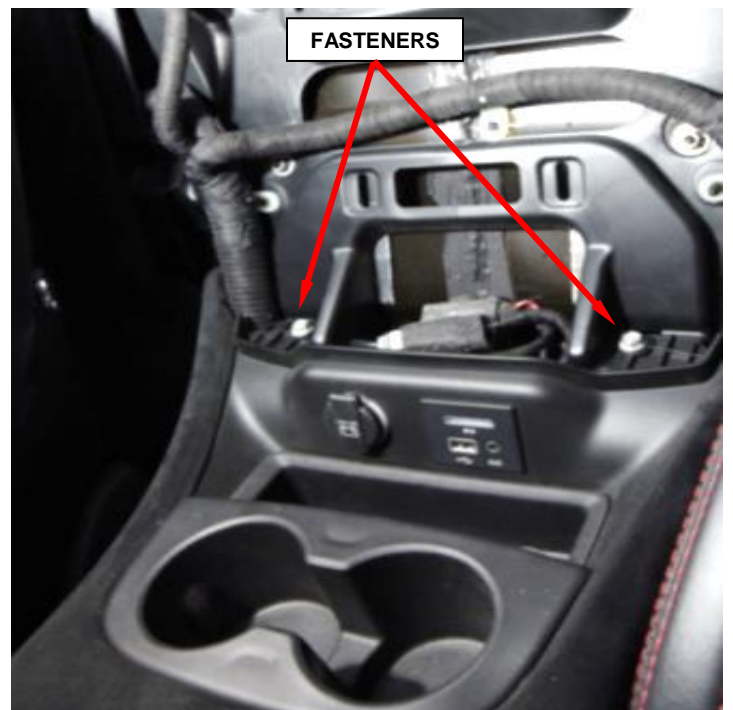

Figure 9 – Rear Console Fasteners
- b. Remove and save the two rear center console fasteners (Figure 9).